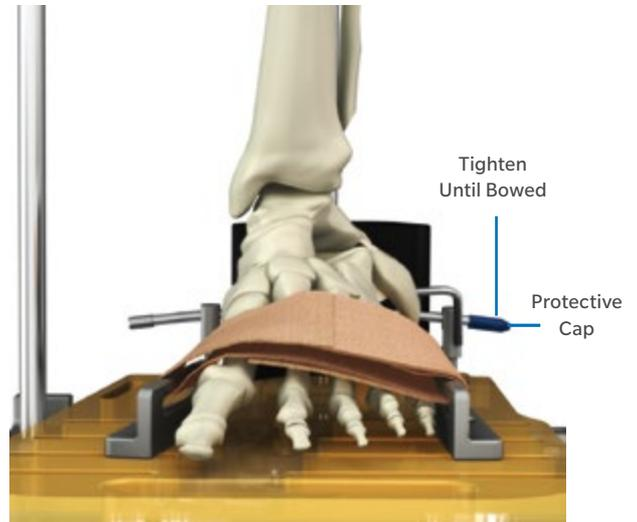

Fig. 20b
- Simultaneously tighten both Calcaneus Pin Hooks until the Calcaneus Pin slightly bends (Fig. 20b).